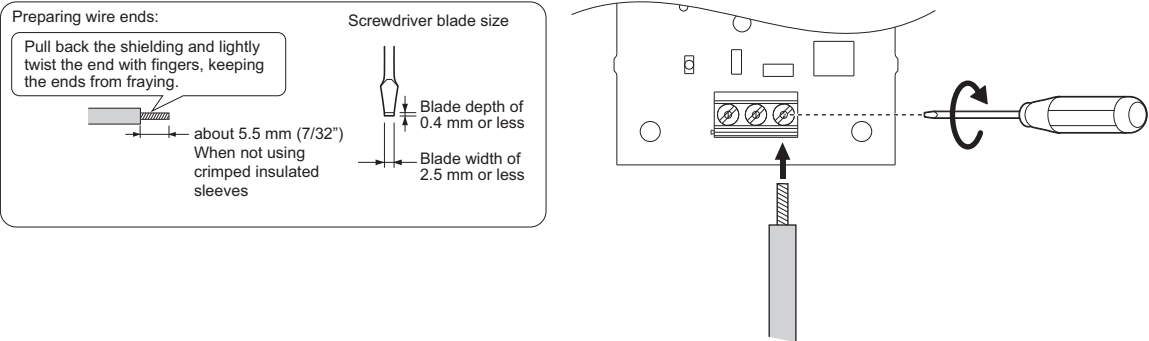

Figure 3.58 Wire the Option Plug
2. Use a flat-blade screwdriver to loosen the screws on the terminal block TB1, connect wiring to the 24, 0, and FE terminals as shown in Figure 3.58, then tighten the terminal screws to hold wiring in place.